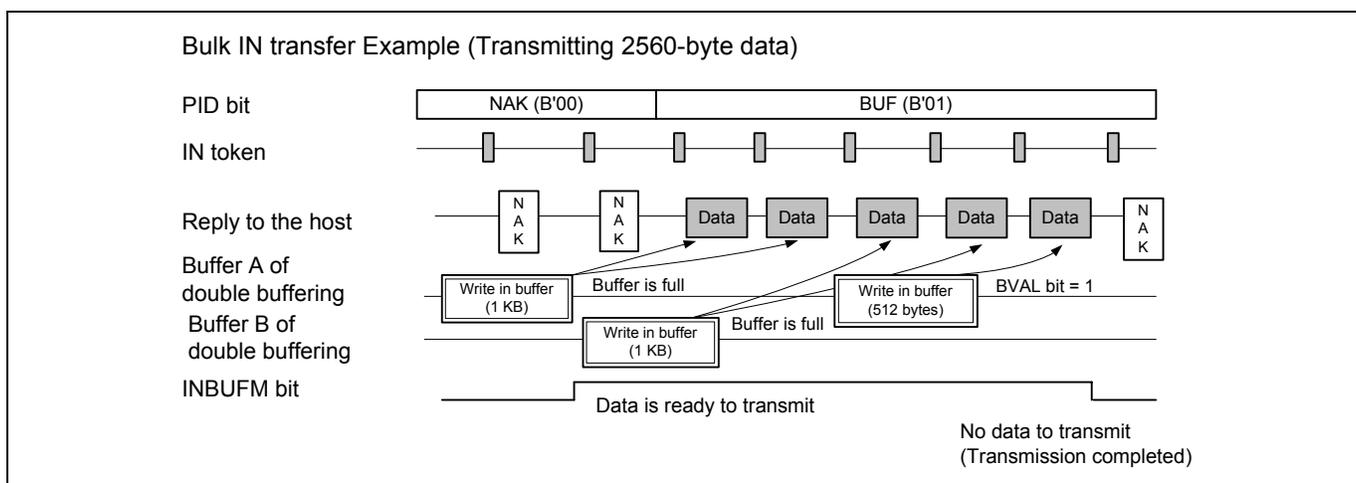

Figure 7 Bulk IN Transfer Example
Table 1 lists the setting example of the bulk IN transfer using pipe 3. Figure 7 shows the operation example using the setting listed in Table 1. Double buffering and continuous transfer mode are enabled in this example. As this example assumes to use the DMA transfer to write data in buffer, BRDY and BEMP interrupts are not used. For details, refer to (1) to (6) described in following pages.